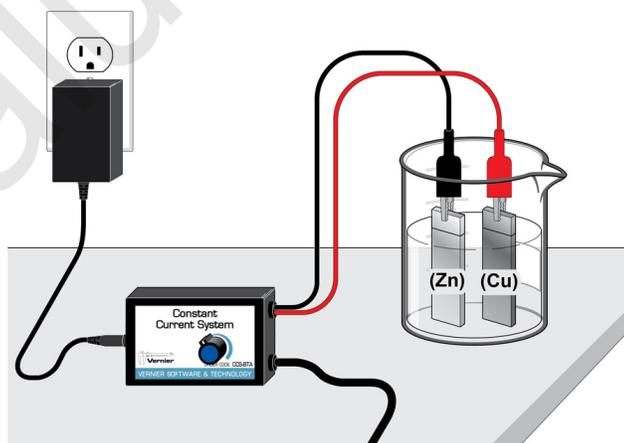

Figure 1 Electrochemical cell using the Constant Current System
6. Clip the zinc to the black lead and the copper strip to the red lead. See Figure 1 for the setup. Do not place the electrodes in the beaker until Step 9. **Important:** Be careful when handling the electrodes. Do not allow the electrodes to touch each other.